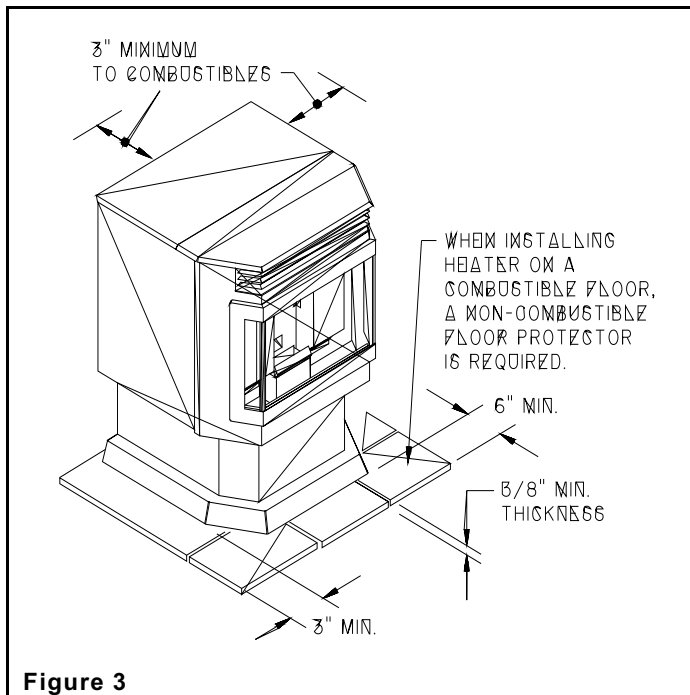

Figure 3
4. **A non-combustible hearth pad must be used if installed on a carpet, wood floor or other combustible material** (see Figure 3).
IMPORTANT: The Fire Pot must be seated flush and must sit even in the pot tray. Air leaking around the Fire Pot will create a poor burn (**Figure 3**). Light the pellets in Fire Pot using any approved pellet lighter.